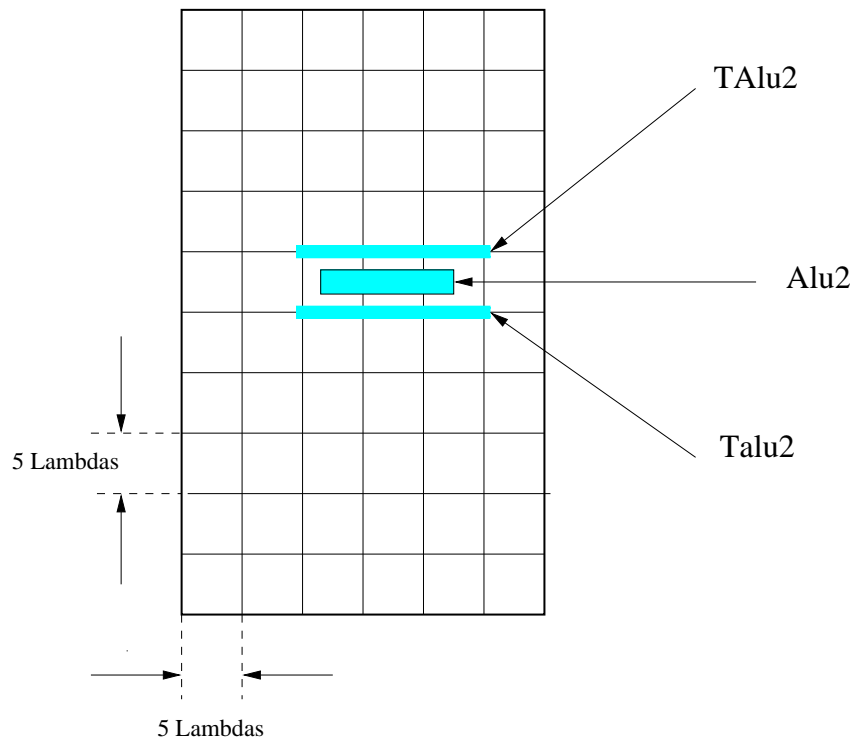

Figure 5: Use the layer TAluX like protection
- The special segments TALux (TALu1, TALu2...) are used to indicate the obstacles for the router. When you want to protect AluX segment, it is necessary to cover them or surround them by corresponding TALux (same layer). TALuX are placed on a grid with 5 lambdas steps (figure 5).